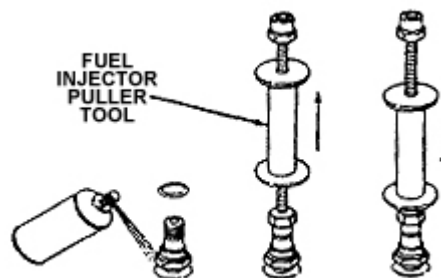

Fig 4: Removing Injector with Puller Tool
- 7: It may be necessary to tap the injector with an injector puller tool. (Fig 4)